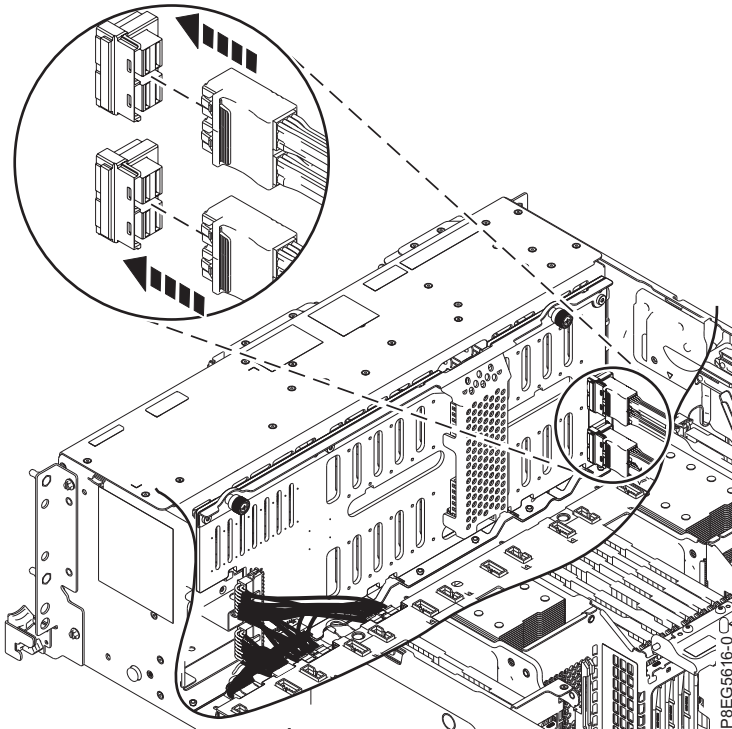

Figure 19. Reconnecting the front SAS cables
6. Reconnect the front SAS cables to the disk drive backplane as is shown in Figure 19 on page 20. Push the connectors in until the latch clicks. Arrange the cables against the side of the chassis.